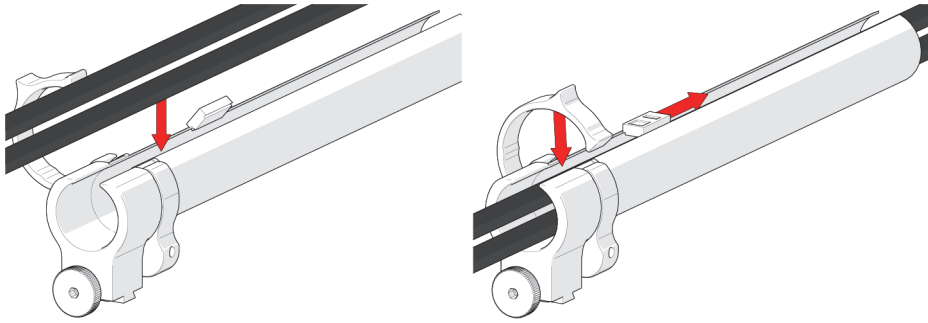

Figure 2-45 Insert cables and zip up to close
1. Open the zipper of the cable management. Begin at the tube's dovetail mount and place the cables in the tube (see Figure 2-45 on page 68).
2. As you place the cable in the tube, zip the tube closed (see Figure 2-45 on page 68).